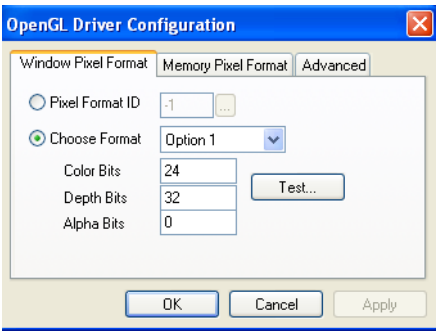

Figure 5-76: *OpenGL Driver Configuration* dialog box
4. In the *OpenGL Driver Configuration* dialog box (figure 5-76), select Pixel Format ID and enter this number.